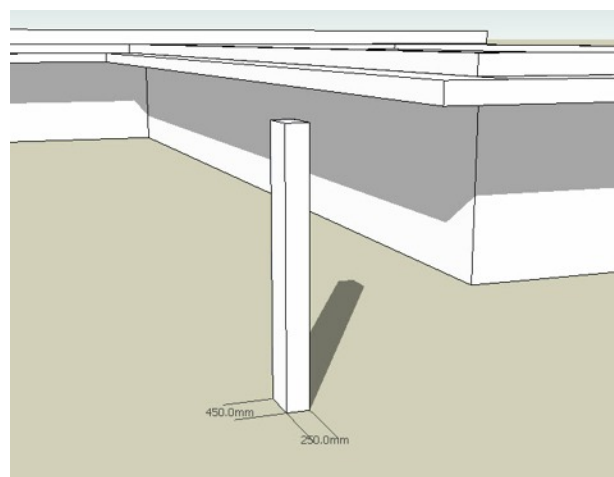

Figure 33. Pillar creation
- In an open area close to the building corner, draw a Rectangle 250x450 and **Push/Pull** the face upwards by the height of the building corner, 2900mm as shown in Figure 33.